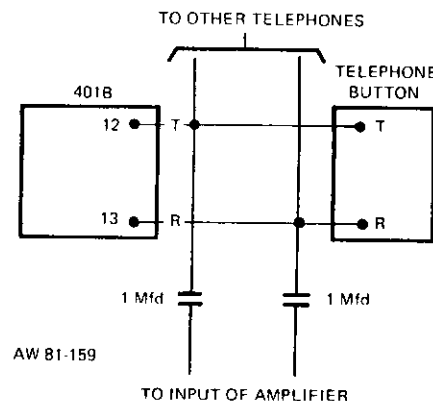

Figure 16: Schematic, Button-Accessed Paging
10.03 Convert a spare button of each telephone set to nonlocking operation. (See instructions packed with subset.) Connect the Tip and Ring leads from this button to station Tip and station Ring of the designated line that corresponds to the line card position in which the 401B card is inserted. These cross-connections are made on the KSU block or 25-pair block if it is used. Connect a 1 Mfd capacitor in series with both input leads to the amplifier. (See Figure 16.)